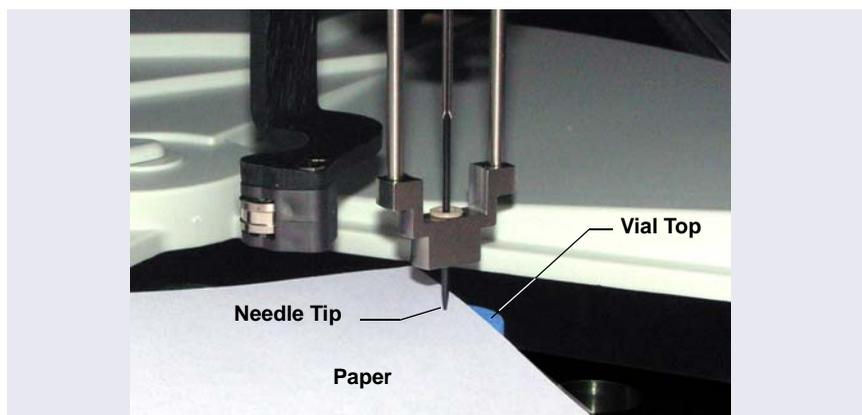

Figure 5-9. *Checking the Vial Height Alignment*
13. Slide a piece of paper between the top of the vial cap and the needle tip (see Figure 5-9). If the needle is at the correct height, the paper should slide in with slight resistance. If there is no resistance, the needle is too high. If you cannot slide the paper under the needle or if the paper is buckled slightly, the needle is too low.